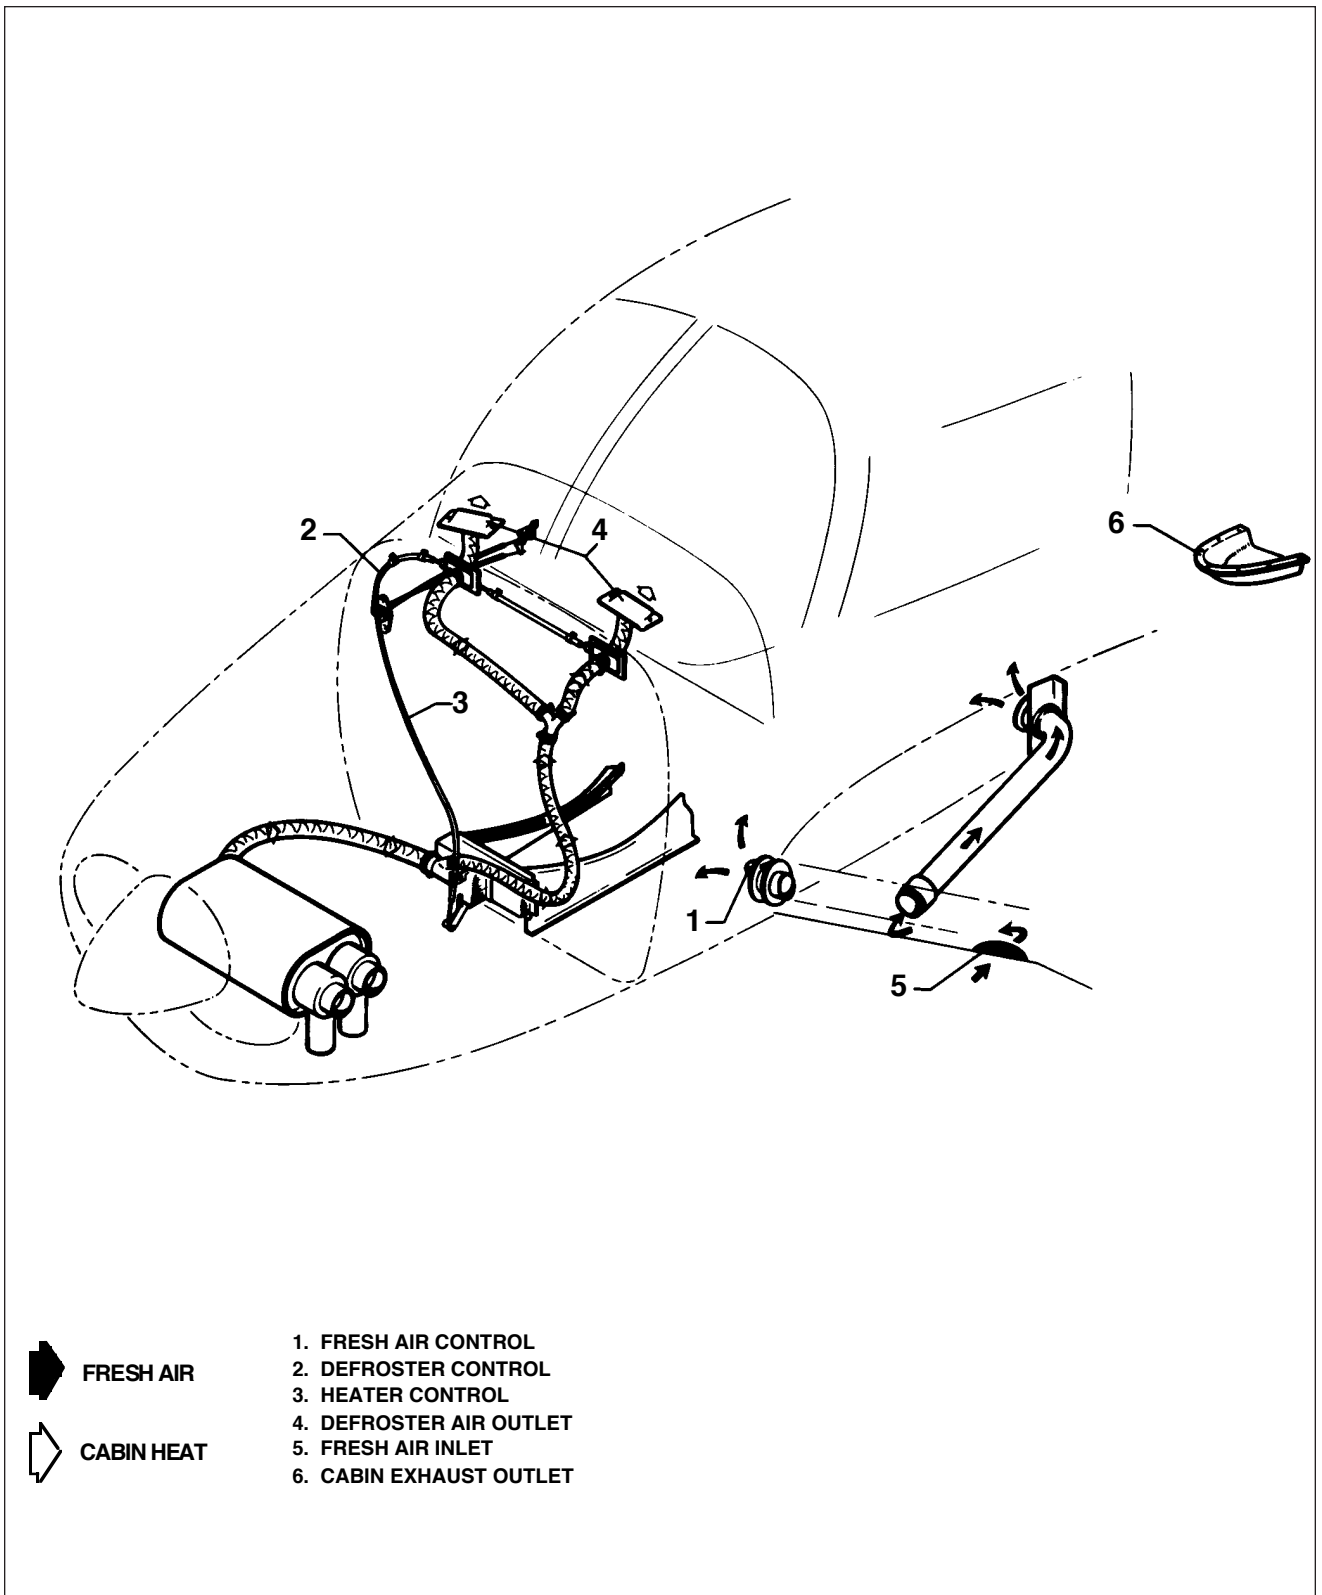

Figure 21-1. Cabin Heater, Defroster, and Fresh Air System (Archer II)
B. HEATER MAINTENANCE (Refer to Figure 21-1.)